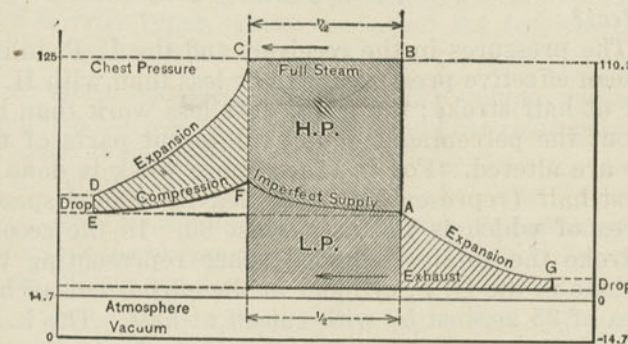

Fig. 320. Theoretical Expansion Diagram.
*A.* Assuming entire lack of clearance (and hence of compression) instantaneous admission and exhaust exactly at stroke end, no wire drawing, and no irregularity caused by the connecting rod, something like this: (Fig. 320).